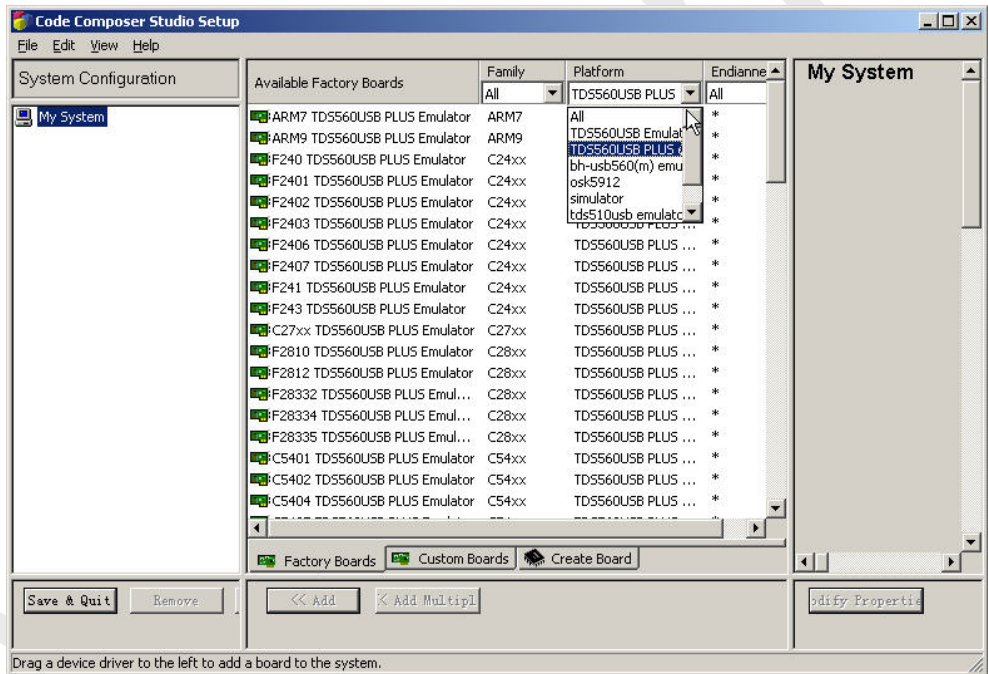

Figure C-1
2. In the Factory Boards List in the CCS setup Window, select the desired **TDS560USB PLUS Emulator** configuration. Use Filters to help narrow the available choices. If the proper **TDS560USB PLUS Emulator** configuration is located, then double click on it and proceed to Step 10(See Figure C-1).